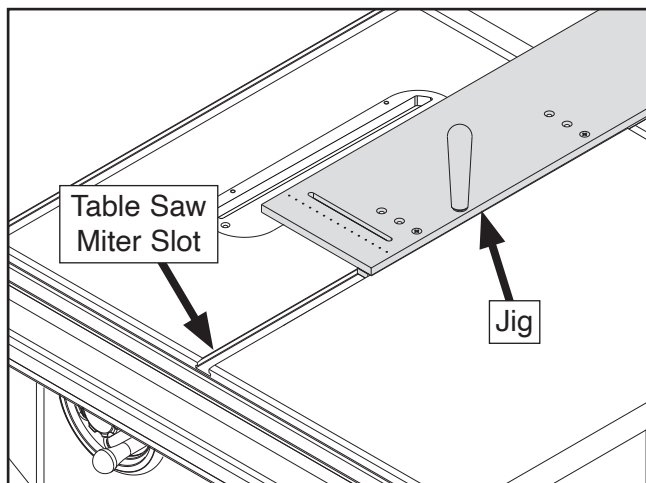

Figure 7. Jig miter bar in table saw miter slot.
9. Place jig miter bar in table saw miter slot on right of blade (see **Figure 7**) to check how miter bar moves through slot.